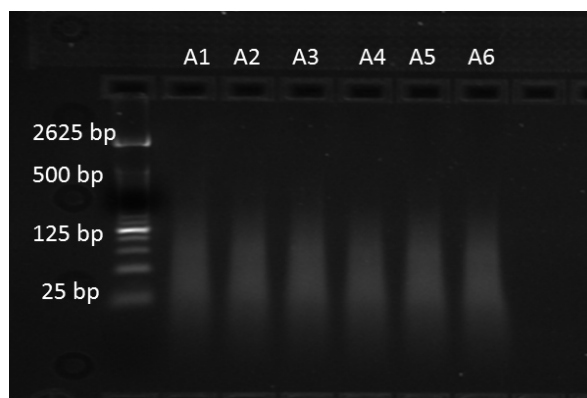
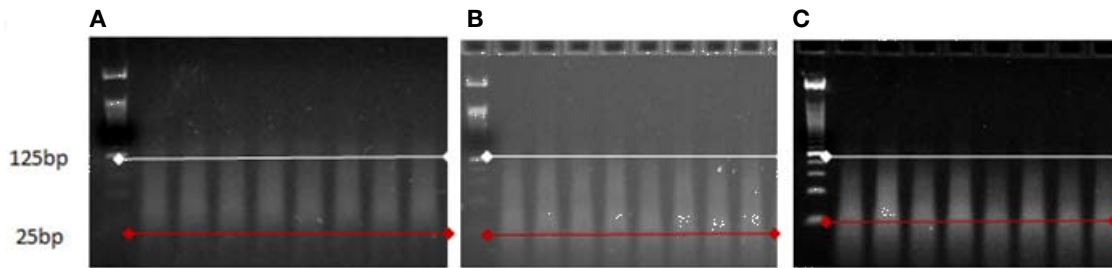

Figure 25 Example fragmentation gel image on 4% agarose gel
Figure 26 Examples of good fragmentation gels: passing performance besides variability in smear patterns
8. Follow manufacturer's instructions and run on 4% agarose gel to meet requirements (Figure 25 and Figure 26).